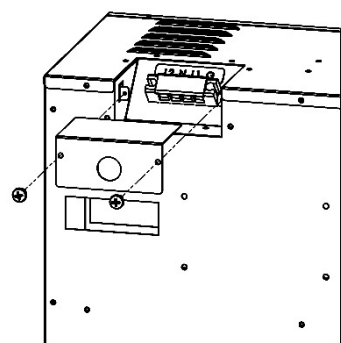

Fig. 5-1
Only 3 terminals will be used in the appliance junction box (Fig 5-1): white (neutral), black (power L1), and green/bare (ground) that are connected to 120V power source (circuit breaker panel). 12 or 14 gauge wire recommended.
- Remove the 2 securing screws from the junction box cover plate, located on the top left-hand, back-side of the appliance (Fig. 5-1).